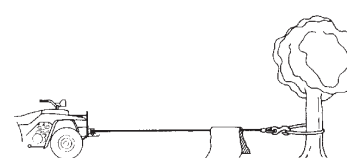

Figure 5
10. It is a good idea to lay a heavy blanket or damper over the winch rope near the hook end when pulling heavy loads (Figure 5). If a winch rope failure should occur, the damper will help prevent the rope from whipping.